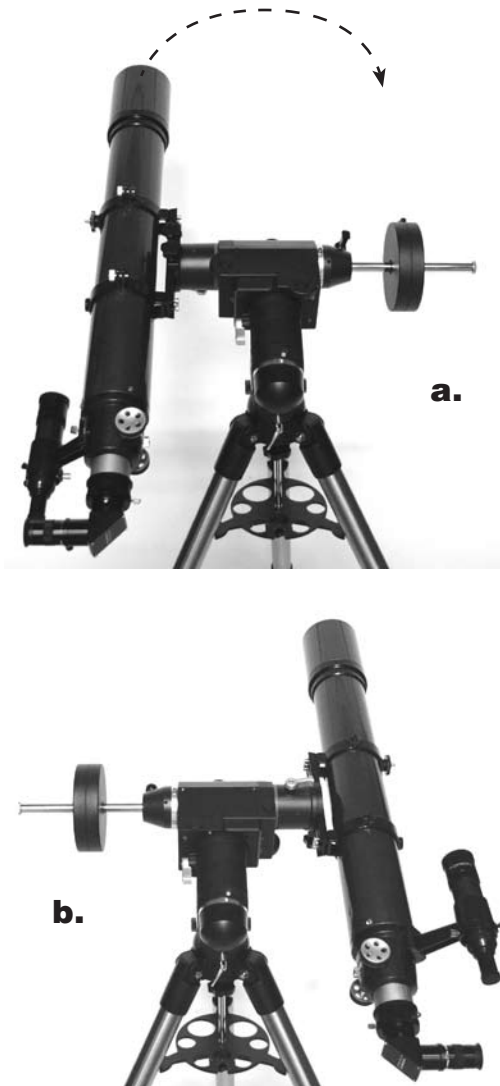

Figure 17a-b. Rotate the telescope 180° about the R.A. axis.
6. Loosen the R.A. lock knob and rotate the telescope about the R.A. axis until the counterweight shaft is parallel to the ground (Figure 17a).
9. Loosen the R.A. lock knob and carefully rotate the telescope 180° about the R.A. axis (Figure 17a & 17b) This should be done as accurately as possible referencing the R.A. mechanical setting circle.